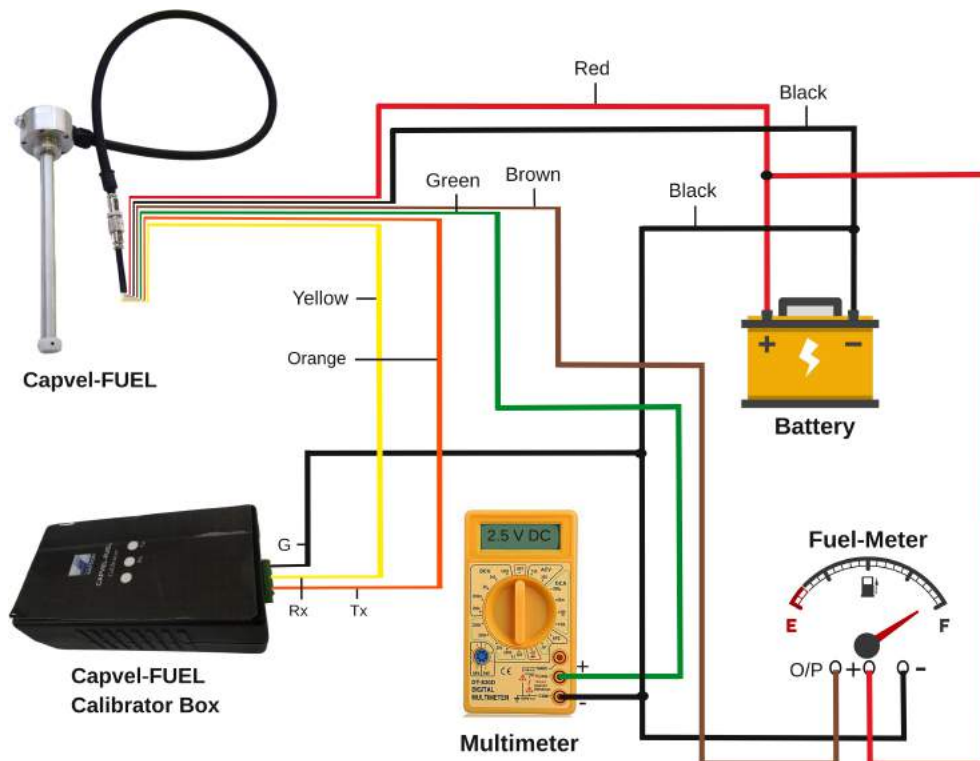

Figure 18: Connection Diagram for Calibration
Figure 18 describes the connection details for connecting Capvel-FUEL with the battery, the Calibrator box and the fuel gauge meter.
- Connect the +V(Red wire) of Capvel-FUEL to '+ve' terminal of battery/DC adapter. Connect the Gnd(Black wire) of Capvel-FUEL to '-ve' terminal of battery/DC adapter. Refer to Figure 18.
Electrical connections for the instrument will change with the models. Please refer to Figure 18 and precautions mentioned below before connecting the device.